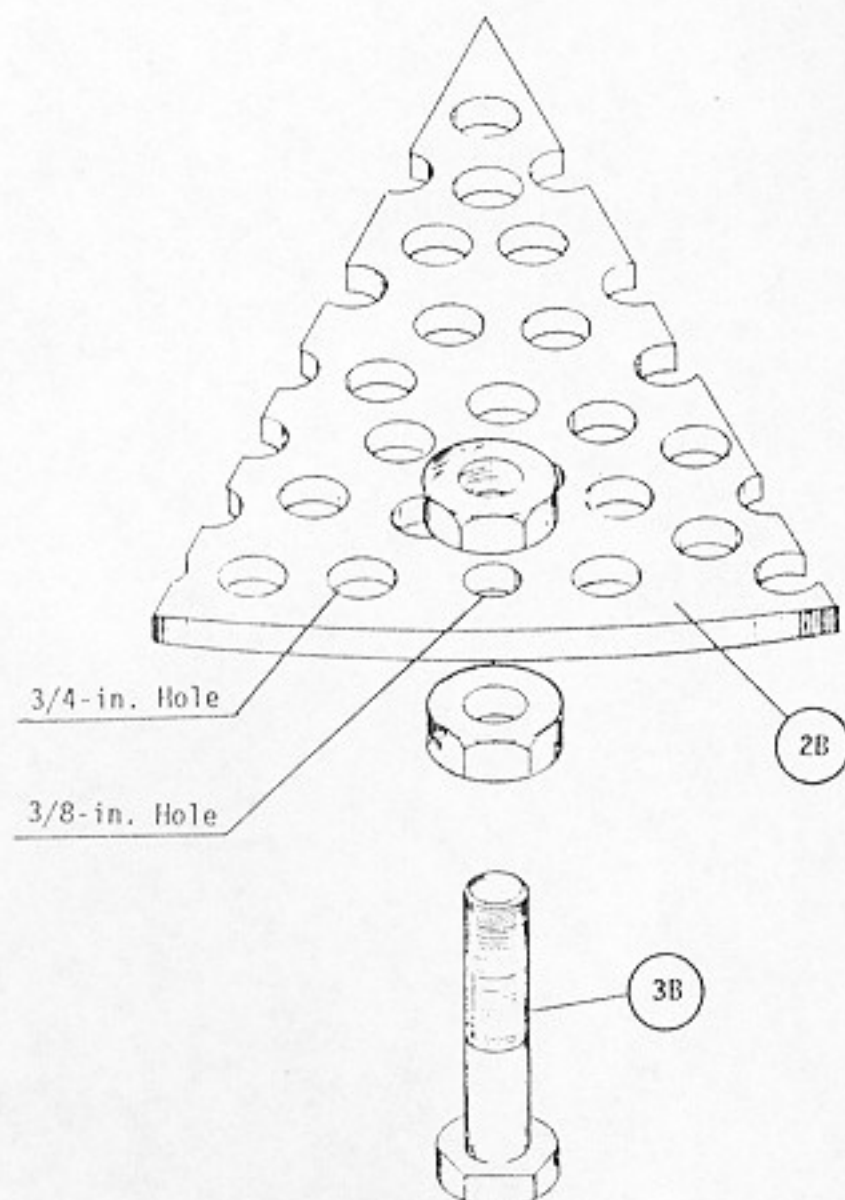

Fig. 2-16. Detail of the standoffs for the bottom plate of the filter unit.
5. Fig. 2-16 shows the detail of using three bolts (Item 3B) as spacers for the bottom plate (Item 2B). The length of the bolts should be adjusted to provide a clearance of about 2-in. between the layer of cement in the bottom of the container (Item 1B) and the bottom plate (Item 2B).